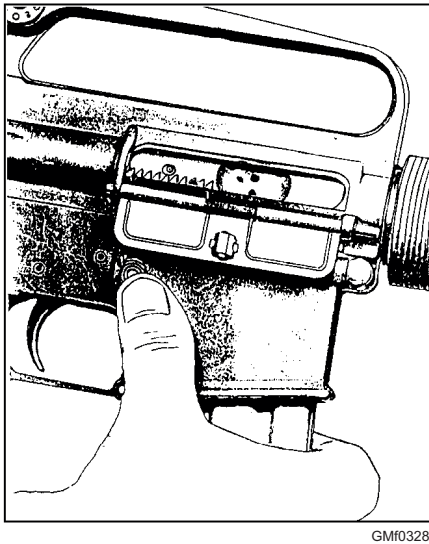

Figure 3-28.—Removing the magazine.
2. Remove the magazine as shown in figure 3-28. Grasp it with the right hand (fingers curled around the front of the magazine). Place the thumb on the magazine catch button, apply pressure on the magazine catch button with the thumb, and pull the magazine straight out of the weapon.